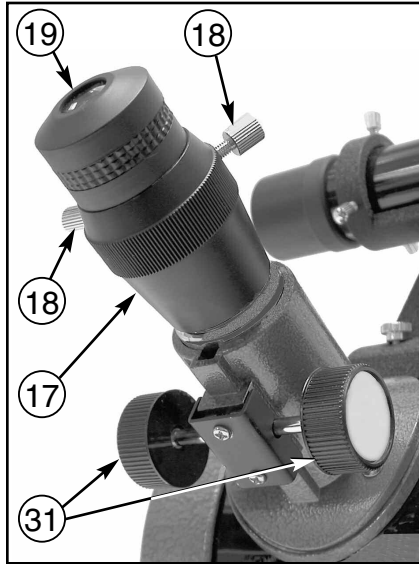
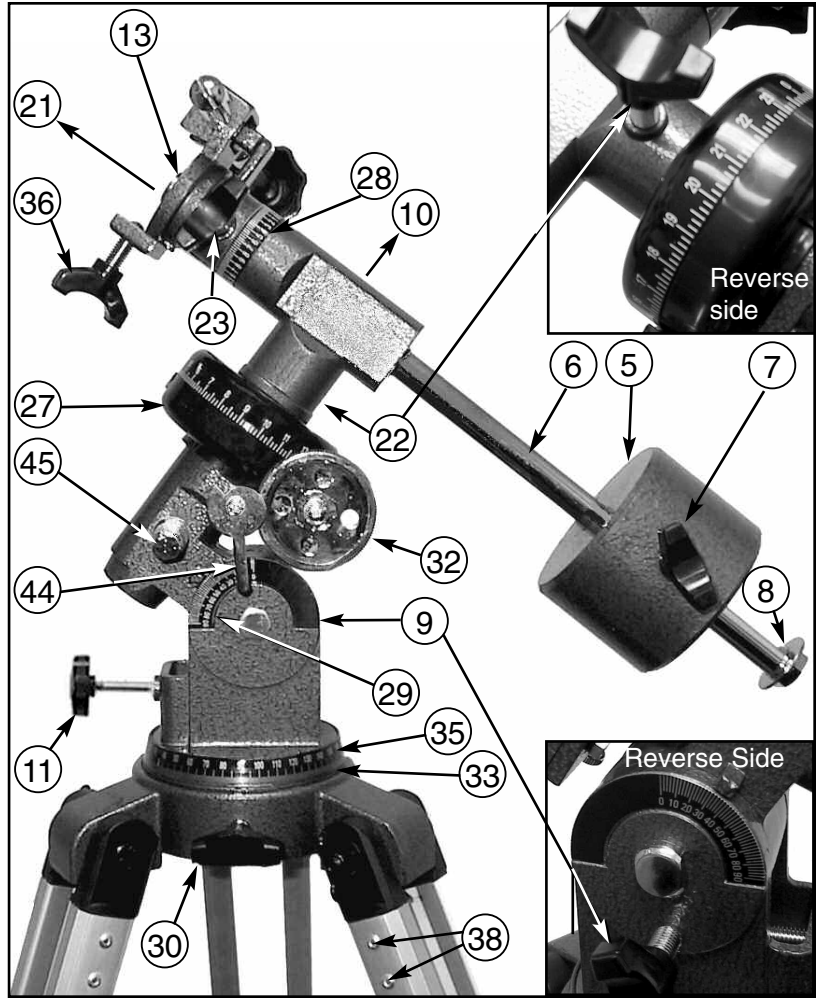
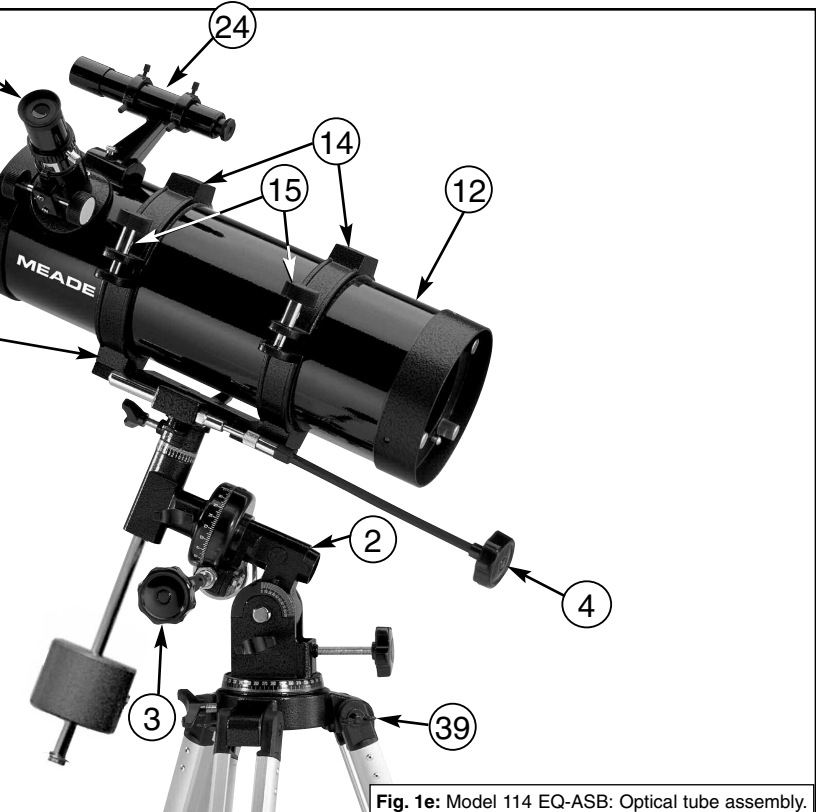
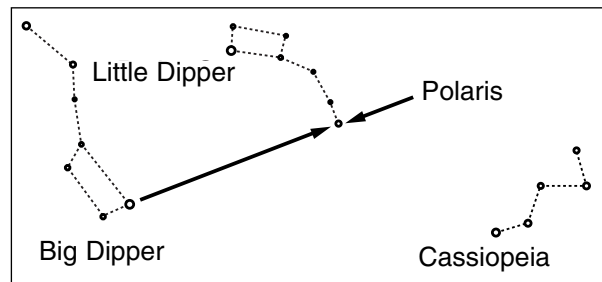

Fig. 1b: Model 114 EQ-ASB: Focuser.
Fig. 1c: Model 114 EQ-ASB: Equatorial mount.
Fig. 1e: Model 114 EQ-ASB: Optical tube assembly.
Fig. 3: Locating Polaris.
In order for the telescope to move smoothly on its mechanical axes, it must first be balanced about the 2 telescope axes: the polar axis (**10, Fig. 1c**) and the Declination axis (**21, Fig. 1c**). All motions of the polar aligned telescope (more on this later) take place by moving about these two axes, separately or simultaneously. To obtain a fine balance of the telescope, follow the method below:
- Loosen the R.A. lock (**22, Fig. 1c**) and rotate the telescope so that the counterweight shaft (**6, Fig. 1c**) is parallel to the ground (horizontal).
- Slide the counterweight along the counterweight shaft until the telescope remains in one position without tending to drift down in either direction. Then tighten the counterweight lock knob (**7, Fig. 1c**), locking the counterweight in position.
- Lock the R.A. lock (**22, Fig. 1c**), and unlock the Declination lock (**23, Fig. 1c**). The telescope will now turn freely about the Declination axis. Loosen the cradle ring lock knobs (**15, Fig. 1e**) so that the main tube in the cradle rings slides easily up-or-down in the cradle rings. Move the main tube in the cradle rings until it is balanced rotationally about the Declination axis. Re-lock the knobs (**15, Fig. 1e**).
- Remove the telescope front dust cover (**25, Fig. 1e**), and the dust covers of the viewfinder.
- Unlock the R.A. lock (**22, Fig. 1c**) and the Dec. lock (**23, Fig. 1c**) so that the telescope turns freely on both axes. Then point the main telescope at some well-defined land object (e.g. the top of a telephone pole) at least 200 yards distant, and re-lock the R.A and Dec. axes. Turn the flexible cable controls, (**3, Fig. 1e**) and (**4, Fig. 1e**), to center the object in the telescopic field.
The celestial map also contains two poles and an equator just like a map of the Earth. The poles of this coordinate system are defined as those two points where the Earth's North and South poles (*i.e.*, the Earth's axis), if extended to infinity, would cross the celestial sphere. Thus, the North Celestial Pole (see **Fig. 3**) is that point in the sky where an extension of the North Pole intersects the celestial sphere. The North Star, Polaris, is located very near the North Celestial Pole. The celestial equator is a projection of the Earth's equator onto the celestial sphere.
With all celestial objects therefore capable of being specified in position by their celestial coordinates of Right Ascension and Declination, the task of finding objects (in particular, faint objects) in the telescope is vastly simplified. The setting circles, R.A (27, **Fig. 1c**) and Dec. (28, **Fig. 1c**) of the Polaris 114 EQ-ASB telescope may be dialed, in effect, to read the object coordinates and the object found without resorting to visual location techniques. However, these setting circles may be used to advantage only if the telescope is first properly aligned with the North Celestial Pole.
1. Release the Azimuth lock (30, **Fig. 1c**) of the Azimuth base (33, **Fig. 1c**), so that the entire telescope-with-mounting may be rotated in a horizontal direction. Rotate the telescope until the polar axis (10, **Fig. 1c**) points due North. Locate Polaris, the North Star (see **Fig. 3**), as an accurate reference for due North.
3. Determine the latitude of your observing location by checking a road map or atlas. Release the latitude lock (9, **Fig. 1c**) and tilt the telescope mount with the latitude adjustment knob (11, **Fig. 1**) so that the pointer indicates the correct latitude of your viewing location on the latitude scale (29, **Fig. 1c**). Re-tighten the latitude lock (9, **Fig. 1c**).
4. Without moving the telescope on the Right Ascension and Declination axes, loosen the azimuth and latitude locks (9 and 30, **Fig. 1c**) and adjust the telescope until Polaris is centered in the telescope eyepiece. If steps 1 - 3 above were performed with reasonable accuracy, your telescope is now sufficiently well-aligned to the North Celestial Pole for visual observations.
- To center an object in the main telescope, loosen the telescope's R.A. lock (**22, Fig. 1c**) and Dec. lock (**23, Fig. 1c**). The telescope can now turn freely on its axes. Use the aligned viewfinder to first sight-in on the object you wish to observe; with the object centered on the viewfinder's crosshairs, re-tighten the R.A. and Dec. locks.
- Once centered, the object can be focused by turning one of the knobs of the focusing mechanism (**31, Fig. 1b**). You will notice that the astronomical object in the field of view will begin to slowly move across the eyepiece field. This motion is caused by the rotation of the Earth on its axis, as described in Section C, although the planets and stars, are, for practical purposes, fixed in their positions in the sky. The platform on which the telescope is sitting (the Earth) rotates once every 24 hours under these objects. **To keep astronomical objects centered in the field of the polar aligned telescope, simply turn the R.A. flexible cable control (3, Fig. 1e).** These objects will appear to move through the field more rapidly at higher powers. Note that the Declination flexible cable control (**4, Fig. 1e**) is used only for centering purposes, and not for tracking.
- Manually turn the R.A. setting circle (**27, Fig. 1c**) to read the R.A. of the object now in the telescope's eyepiece.
- The setting circles are now calibrated (the Dec. setting circle (**28, Fig. 1c**) is factory calibrated). To locate a nearby faint object using the setting circles determine the faint object's celestial coordinates from a star chart, and move the telescope in R.A. and Declination until the setting circles read the R.A. and Dec. of the object you are attempting to locate. If the above procedure has been carefully performed, the faint object will now be in the field of a low power eyepiece.